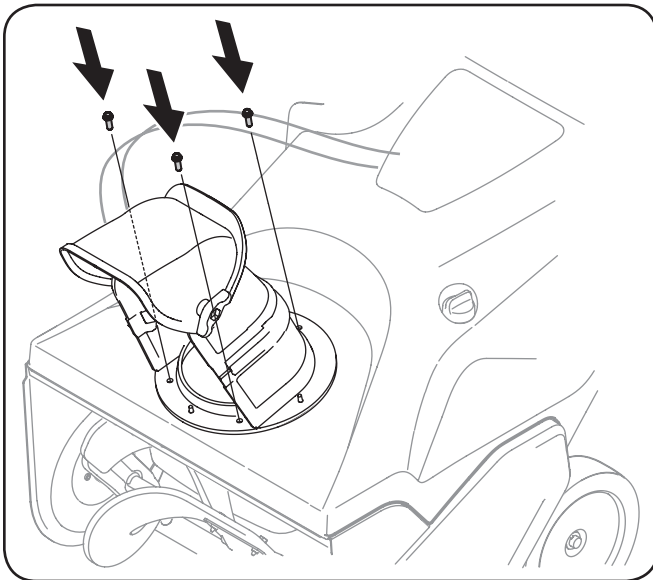

Figure 3-5
2. Align the holes in the chute base with the holes in the lower chute and secure with the previously removed hex washer screws. See Fig. 3-5.